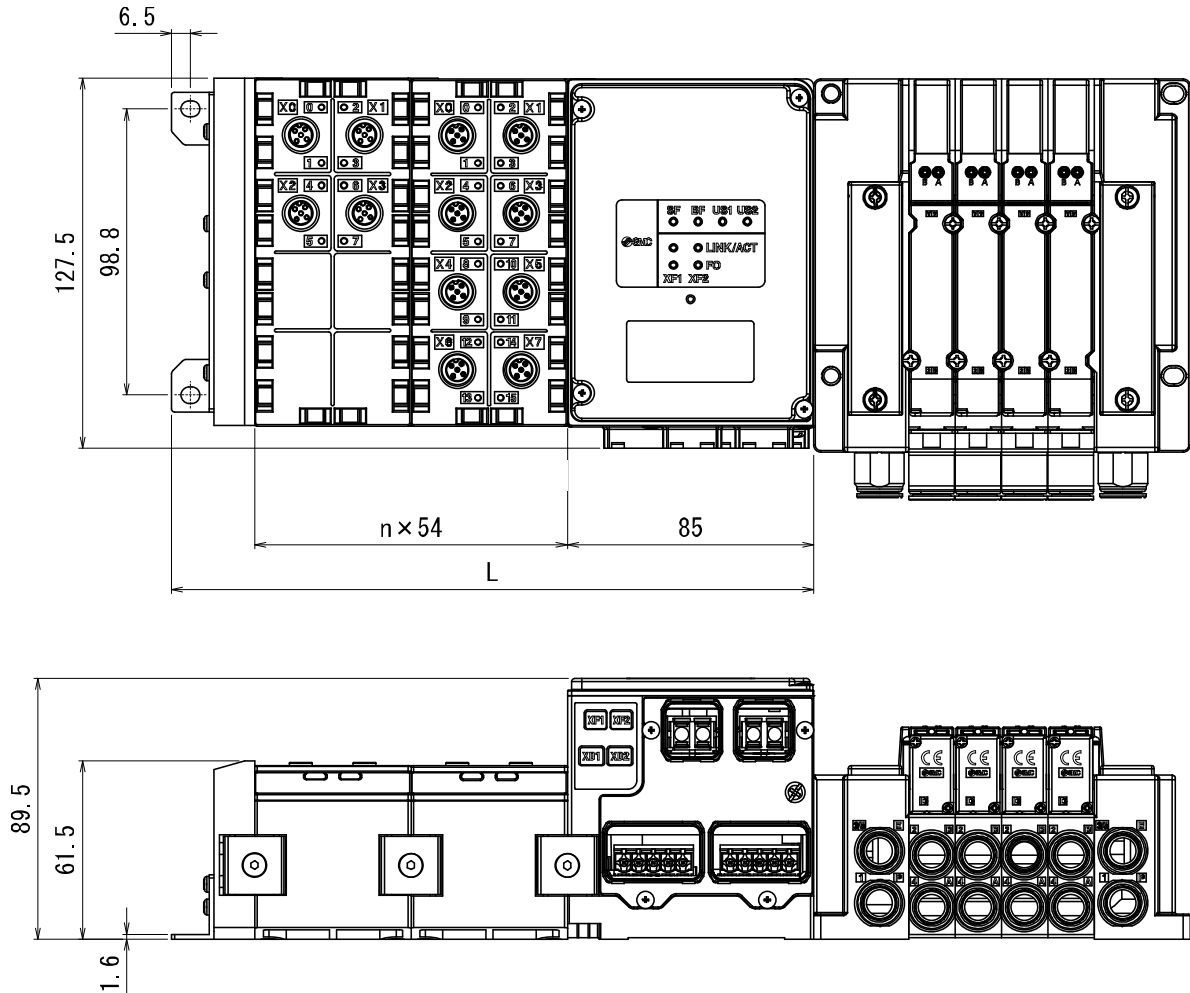

Fig. 12-1 Dimensions of the Modules manifold
- Fig. 12-1 shows when the EX245-EA2-1 is used.